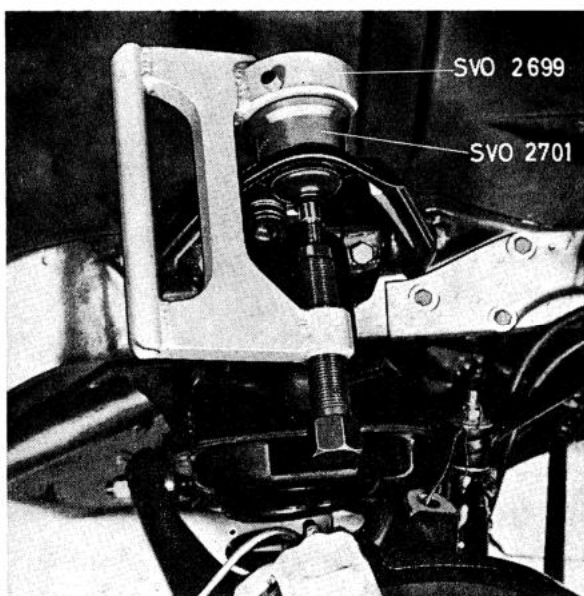

Fig. 6-21. Removing the upper ball joint
3. Slacken but do not remove the nut for the upper ball joint. Tap with a hammer on the steering knuckle round the ball joint pin until it loosens from the axle. Remove the nut and suspend the upper end of the knuckle with a wire to avoid straining the brake hoses, see Fig. 6-21.
4. Slacken the nuts for the wishbone shaft a 1/2 turn. Lift up the wishbone slightly and press out the ball joint with press tool SVO 2699 and sleeve SVO 2701, see Fig. 6-21.
3. Slacken but do not remove the nut for the upper ball joint. Knock with a hammer on the steering knuckle round the ball joint pin until it loosens from the axle. Remove the nut and suspend the upper end of the knuckle with a wire to avoid straining the brake hoses, see Fig. 6-21.